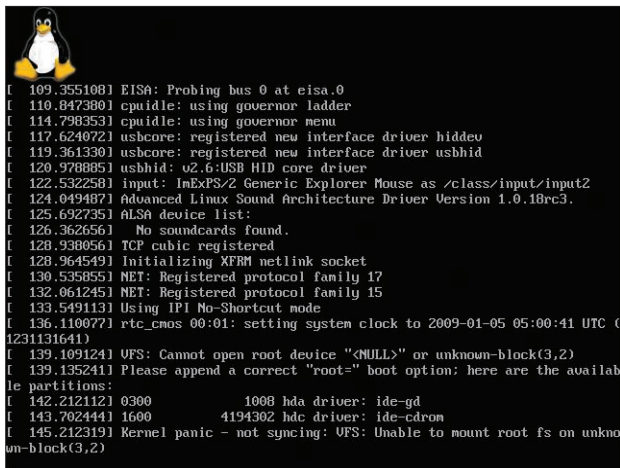

Figure 3: If your kernel panics, try to determine the point in the startup process when the error occurred.
Occasionally a kernel update seems successful, yet the system won't boot afterwards. Don't panic (even if your kernel just did). Figure 3 shows an example of
In Figure 3, step 3 also was apparently OK because no fatal error message or freeze occurred during the first hardware initialization by the kernel. Because the output doesn't display an *unable to load ramdisk* message, you might think that step 4 cannot possibly have gone wrong, but it's still possible that the ramdisk loaded by the bootloader into memory was overwritten when the kernel image was decompressed into memory. Typically, this problem occurs when the static kernel gets too large to fit into memory before the start of the ramdisk location (a fixed address for most bootloaders), which is the case when the compressed kernel image exceeds approximately 2.5MB in size. In this case, I did not even use a ramdisk; instead, all drivers necessary to mount the root filesystem are compiled into the kernel.
- The controller driver for the hard disk is not present (which is not the case in Figure 3).